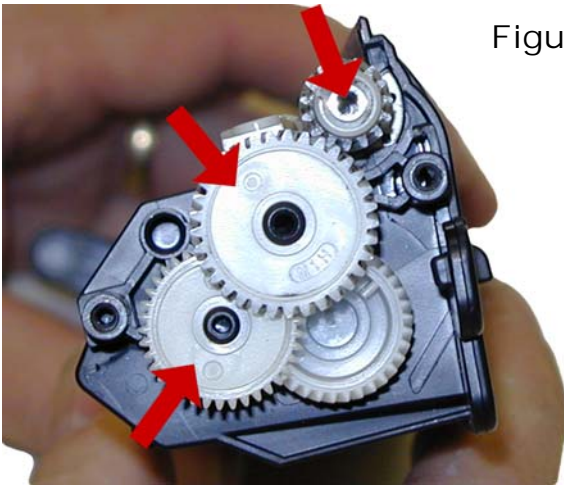

Figure 32
24) Install the gears as shown. See **Figure 32**